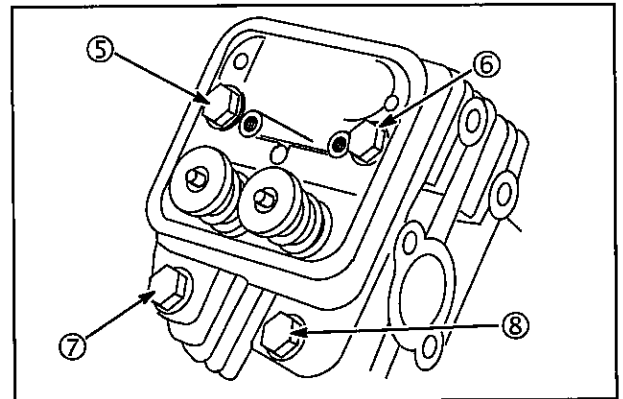

Fig. 23
3. Remove head bolts (5, 6, 7, 8) and cylinder head, **Fig. 23**. Discard cylinder head gasket.